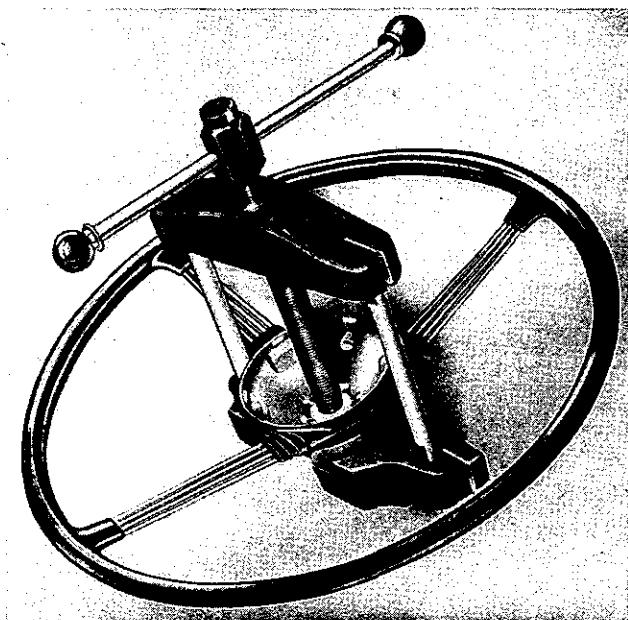

Fig. 6. Removing steering wheel with special puller
position when reassembling. Unscrew nut on the steering boss and withdraw steering wheel with wheel puller as shown in Fig. 6.
12. Remove the nut which secures the steering wheel to the inner column ($1\frac{5}{16}$ " A/F spanner) and remove steering wheel with the extractor as shown in Fig. 6.